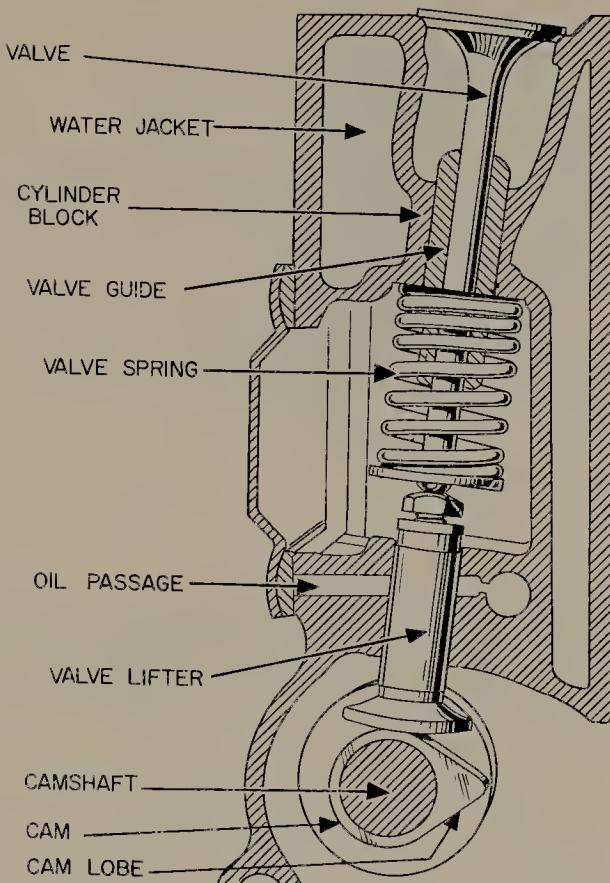
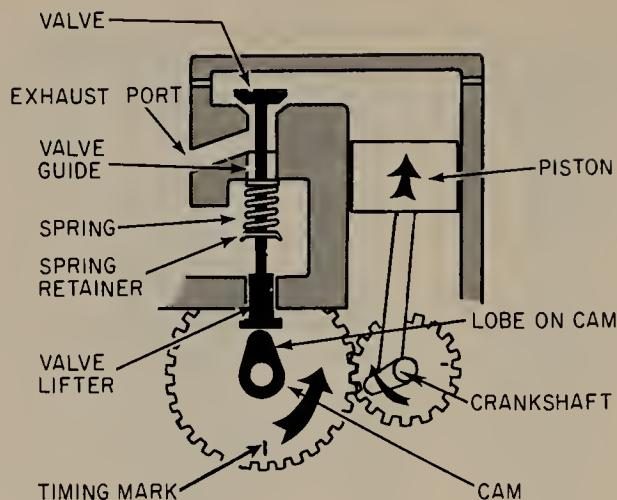

FIGURE 4.2 Valve mechanism used in an L-head engine. The valve is raised up off its seat with every camshaft rotation.
FIGURE 4.4 As the cam-shaft is driven by the crankshaft, the cam lobe moves up under the valve tappet, and this forces the valve to move up off its seat.
4.2 Operating the Valves. Figure 4.2 shows a typical arrangement for operating a valve in a small engine. The valve moves up and down in a valve guide which is part of the cylinder block. There is a valve spring that puts tension on the valve and tries to keep the valve closed, that is, seated on the valve seat, or port, in the cylinder block. The valve spring is held between the cylinder block and a spring retainer. The spring retainer is attached to the valve stem by a retainer lock which fits into grooves in the valve stem. Below the valve stem is a valve lifter or valve tappet as it is also called. The valve lifter moves up and down in a bore, or hole, in the cylinder block. The valve lifter rests on a cam which has one high spot, or lobe. The cam rotates as the crankshaft rotates. The two are geared together. Figure 4.3 shows a gearing arrangement for a small four-cycle engine. As the camshaft rotates, the cam lobe moves around under the valve lifter, causing it to be pushed upward, as shown in Fig. 4.4. This upward push overcomes the valve-spring tension so that the valve is raised off the valve seat. The valve is then open, and gas can pass through the opening between the valve seat and valve. If the valve is the intake valve, it is air-fuel mixture from the carburetor that passes through the valve opening on its way to the cylinder. If it is the exhaust valve that opens,
4.9 I-Head Engine. The type of engine described above and shown in Figs. 4.2 to 4.10 is called an L-head engine because the cylinder and combustion chamber are in the shape of an inverted L (Fig. 4.13). Most small four-cycle engines are of this type. They have the valves located in the cylinder block. Some small four-cycle engines, and almost all automotive engines, are of the I-head, or overhead-valve type. In this type of engine, the valves are located overhead, in the